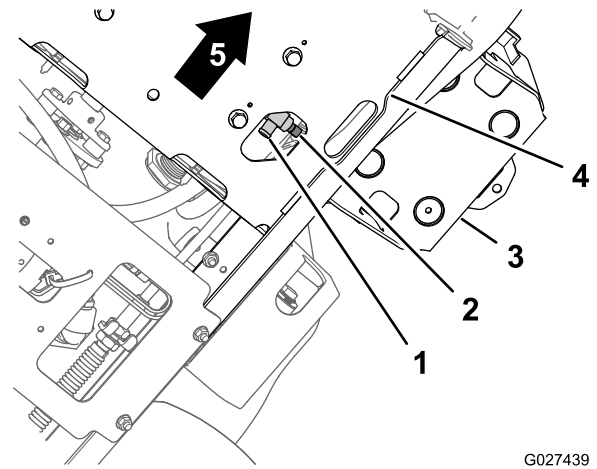

Figure 60
4. Align a drain pan with a capacity of 1.5 L (1.6 US qt) or greater below the drain valve at the bottom of the skid plate and inboard from the battery tray (Figure 60).
5. Open the drain valve by rotating the hex-head stem of the valve counterclockwise with a wrench (Figure 60).
6. Close the drain valve clockwise until the valve is fully seated (Figure 60).